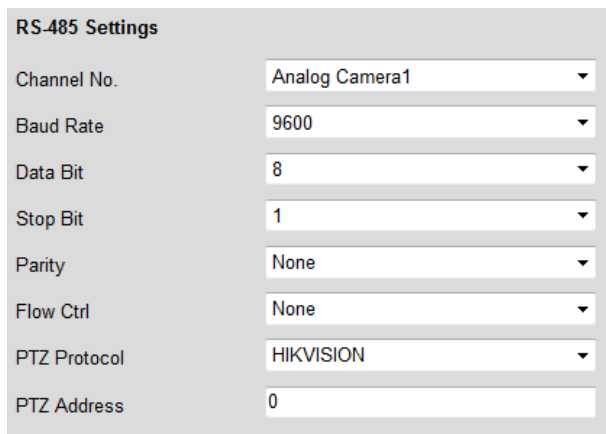

Figure 6.3 RS-485 Settings
2. The baud rate, PTZ control and address configured in the **RS-485 Settings** interface (**Remote Configuration > Serial Port Settings > 485 Serial Port**), as shown in Figure 6.3, must be the same with the parameters of the connected pan/tilt unit or speed dome.